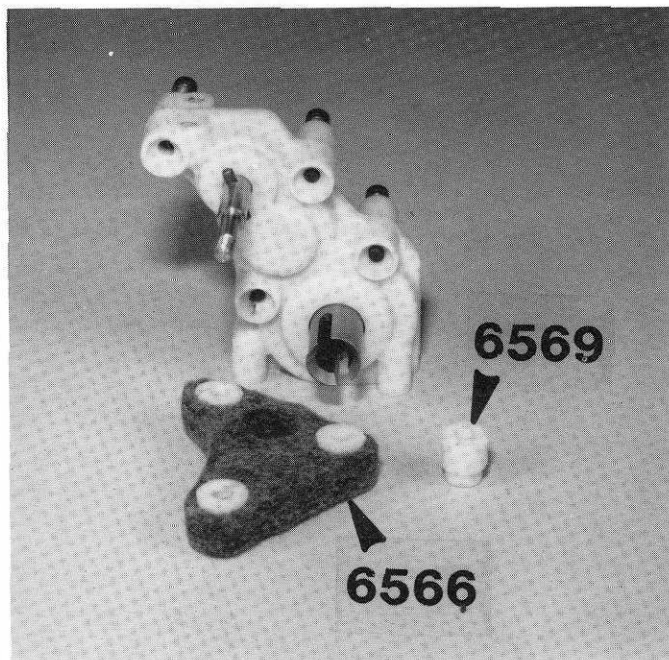

Fig. 66
□ **Fig. 66** Now take the four #6569 plastic spacers from Bag C and slip three of them into the #6566 felt dust shield from Bag F so that the small end of the spacers can go into the case holes.